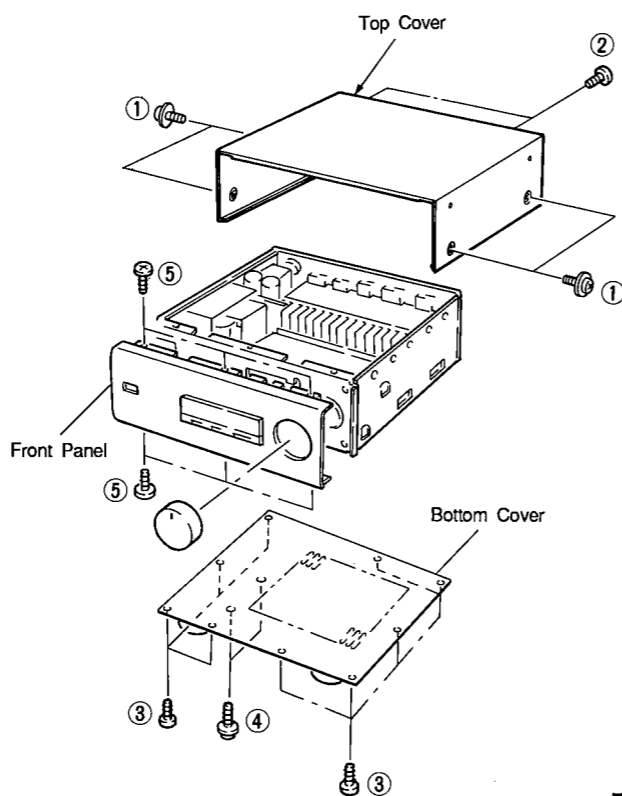

Fig. 1
Remove 4 screws (①) and 2 screws (②), and then remove the Top Cover in Fig. 1.
Remove 10 screws (③) and 2 screws (④), and then remove the Bottom Cover in Fig. 1.
Remove VOLUME knobs in Fig. 1.
Remove 6 screws (⑤) and then the remove the Front Panel in Fig. 1. For this removal, also remove connectors (#20) as necessary.